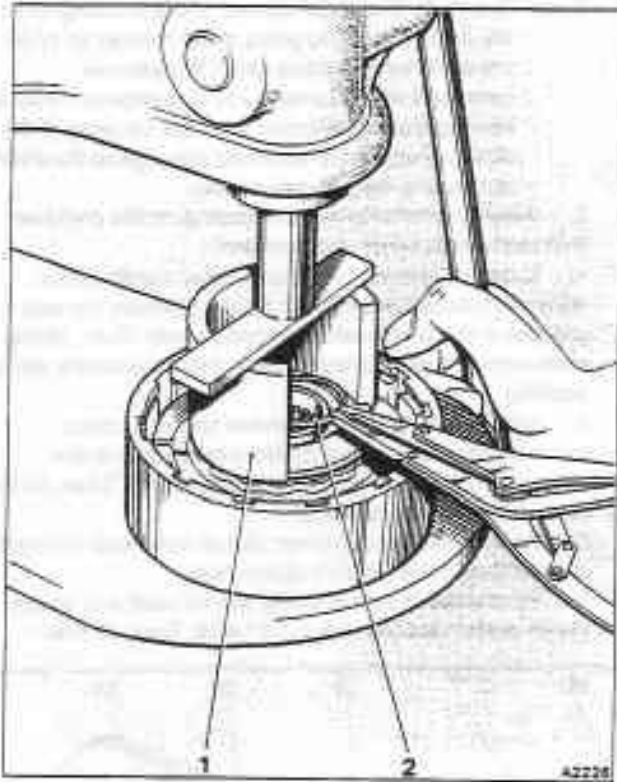

Fig. T19-5 Removing and fitting the forward clutch housing snap ring
5. Compress the clutch return springs until the retaining snap ring is accessible. Remove the snap ring (see fig. T19-5).